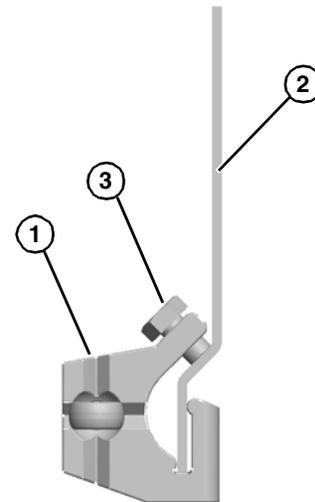

Figure 37
1. Clamp mounting block (Figure 37, item 1) to frame (Figure 37, item 2).
2. Tighten bolt to 20 in-lb (2 Nm) (Figure 37, item 3) to secure.